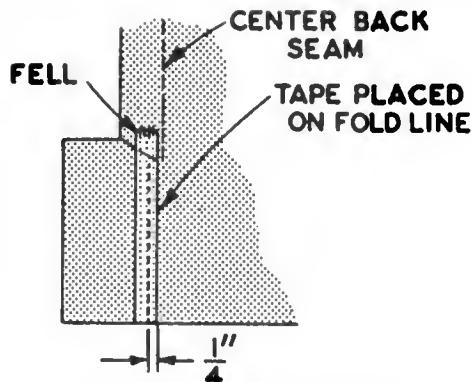

Fig. 268. Basting the vent.
- C. Stitch the tape  $\frac{1}{4}$  in. from the chalked fold-seam line (Fig. 268).